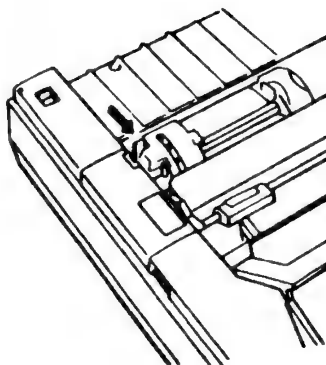

Figure 2-19 Loading Continuous Forms (2)
7. Lock the left form tractor into position by setting the tractor lock lever towards the front of the printer, as shown in Figure 2-19.